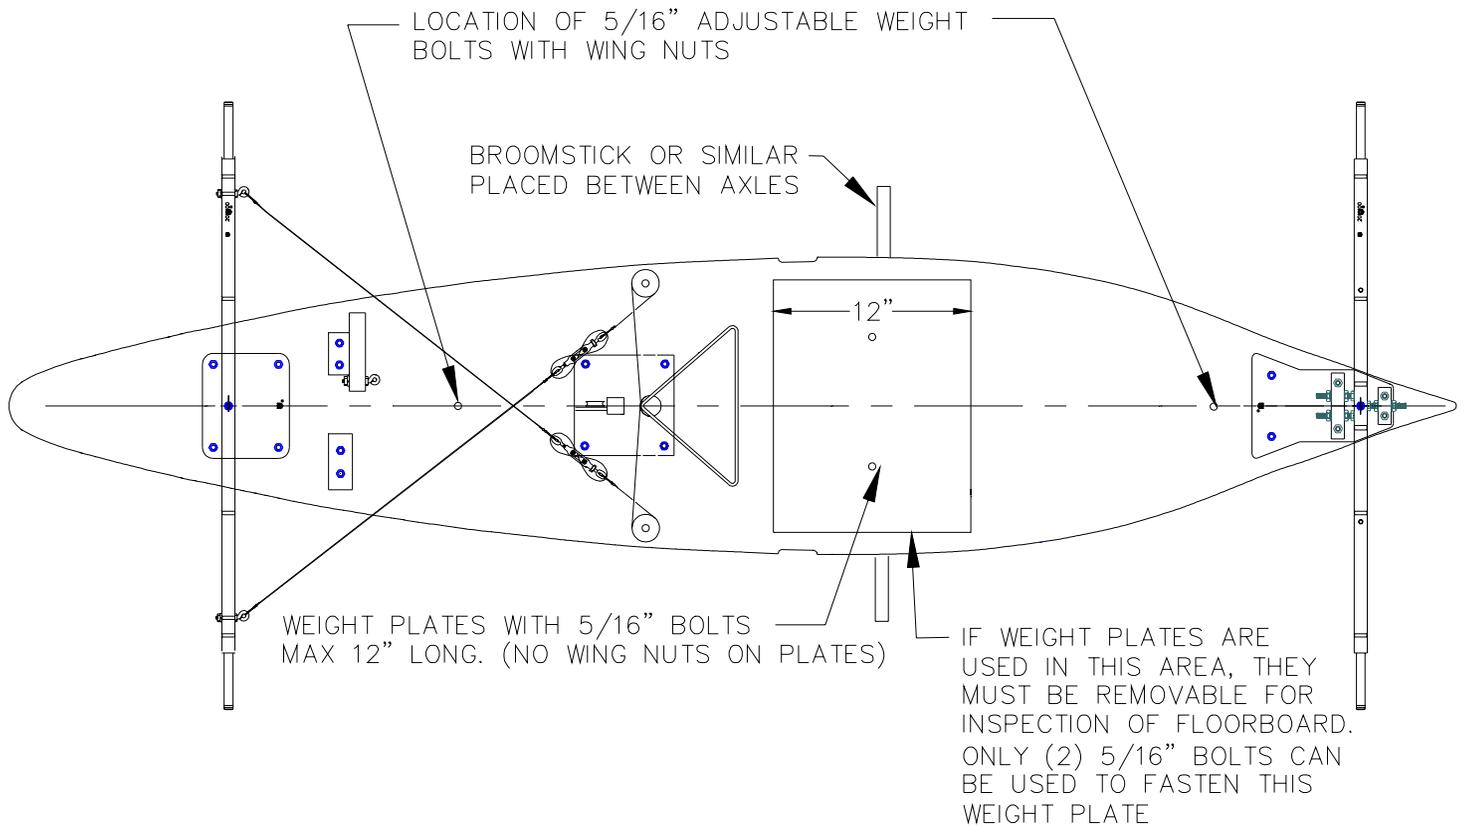

FIG. 9.0
- c. Place a 2 x 4 or broomstick under the center of the floorboard. Have the driver lay down on the floorboard and get in driving position. Add weight so that the car is balanced. (See Fig. 9.0)